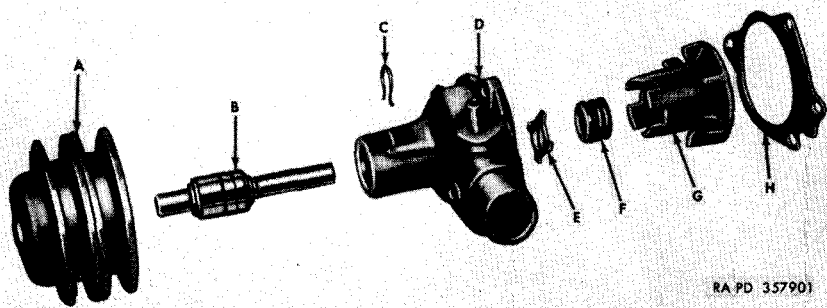
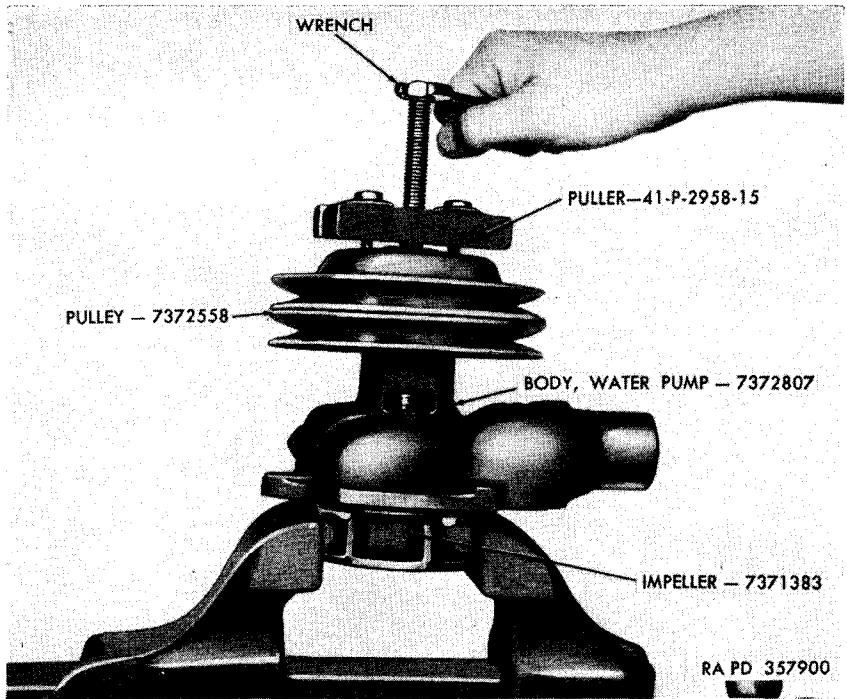
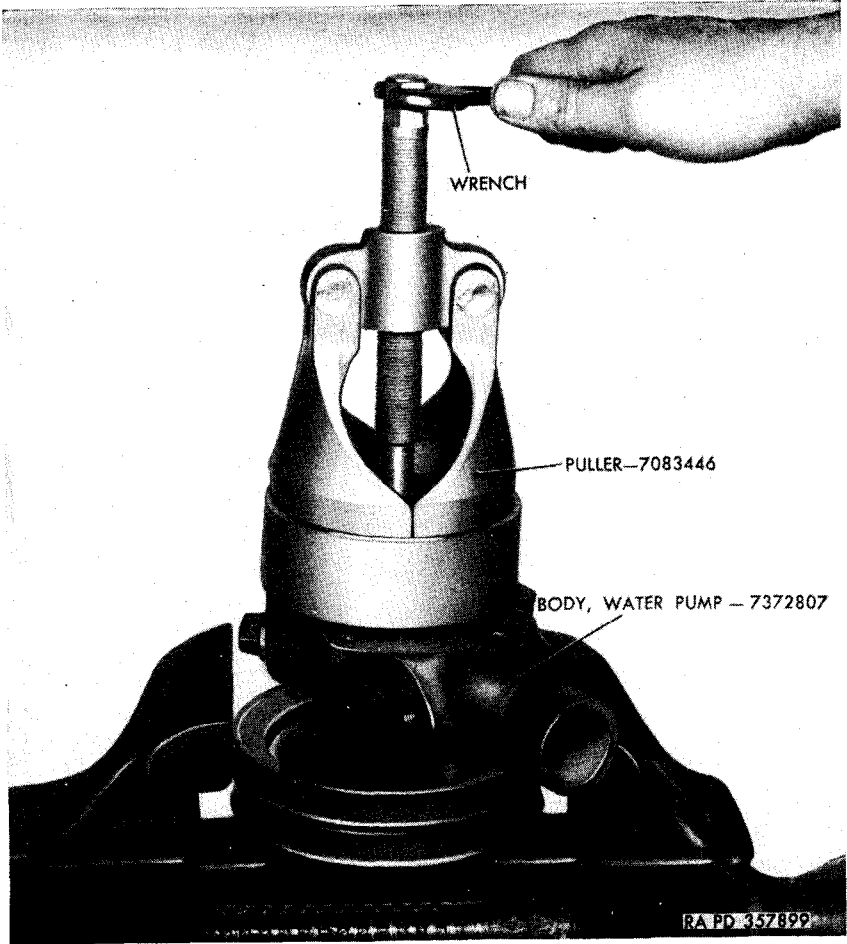
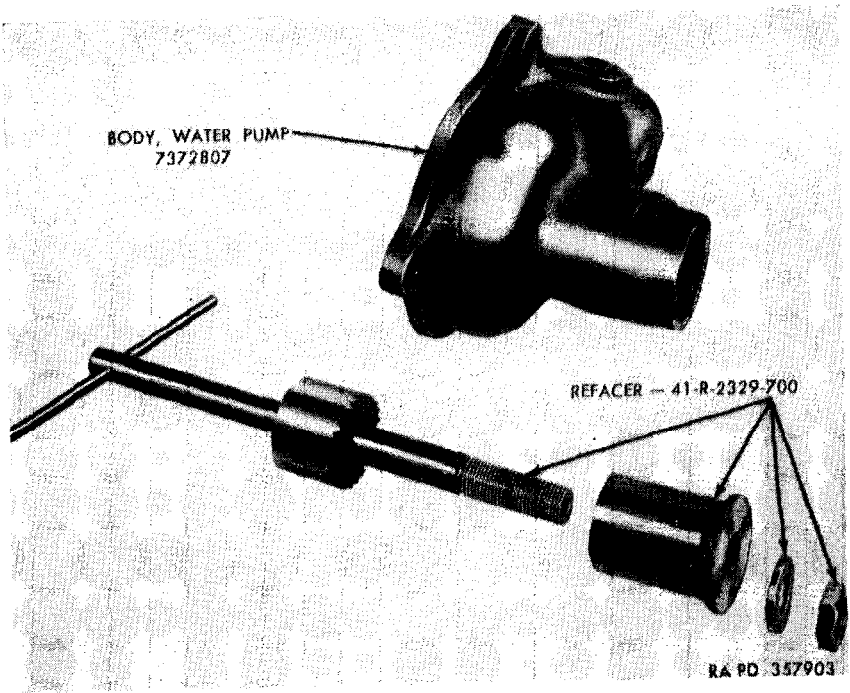

Figure 47. Water pump—exploded view.
Figure 48. Removing fan and water pump pulley using puller 41-P-2958-15.
Figure 49. Removing water pump impeller using puller 7083446.
Figure 50. Water-pump refacing tool 41-R-2329-700.
Pull the water pump bearing retaining ring from the water pump (fig. 47). Remove the water pump impeller using puller 7083446 (fig. 49). Remove the water-pump seal and washer. Press out the water pump bearing and shaft assembly and water pump pulley from the water pump body as a unit. Remove the water pump pulley (fig. 48) from the water pump bearing and shaft assembly using puller 41-P-2958-55).
a. **WATER PUMP BODY** (fig. 47). A cracked or damaged water pump body must be replaced. Reface seat using refacer 41-R-2329-700 (figs. 50 and 51).
b. **WATER PUMP IMPELLER** (fig. 47). A water pump impeller that is cracked or that has a broken fin must be replaced.
c. **WATER PUMP PULLEY** (fig. 47). A distorted or damaged water pump pulley must be replaced.
d. WATER-PUMP BEARING AND SHAFT ASSEMBLY (fig. 47). Rotate the water pump bearing; if the bearing binds or has a tendency to stick, it must be replaced. Bearings that have side or end play, must be replaced.
Press the front (short) end of the water-pump bearing and shaft assembly into the water pump pulley (fig. 47). Press the pulley and bearing and shaft assembly into the front end of the water-pump body until the groove on the bearing is aligned with the small slot in the body. Dip a new seal assembly and seal washer in hydraulic brake fluid and install them in the water-pump impeller. Press the shaft into the impeller until the end of the shaft is flush with the end of the impeller. Install the bearing retaining ring.